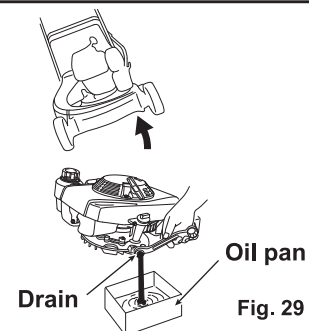

Fig. 29
2. Drain the engine oil from the drain port. (See Fig. 29)